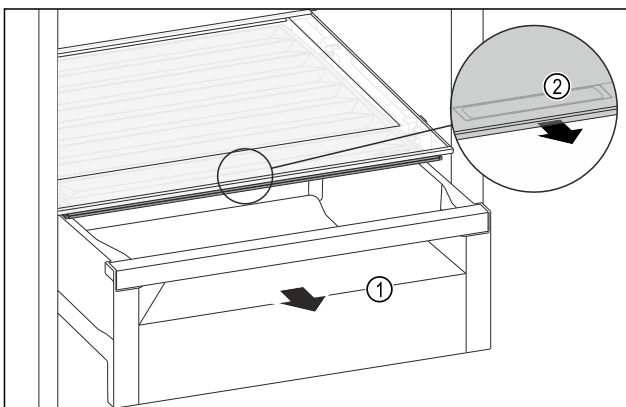

Fig. 83
- ▶ Pull out the drawer Fig. 83 (1).
- ▶ Grip the handle recess Fig. 83 (2) on the lid while pulling the lid forward at the same time.